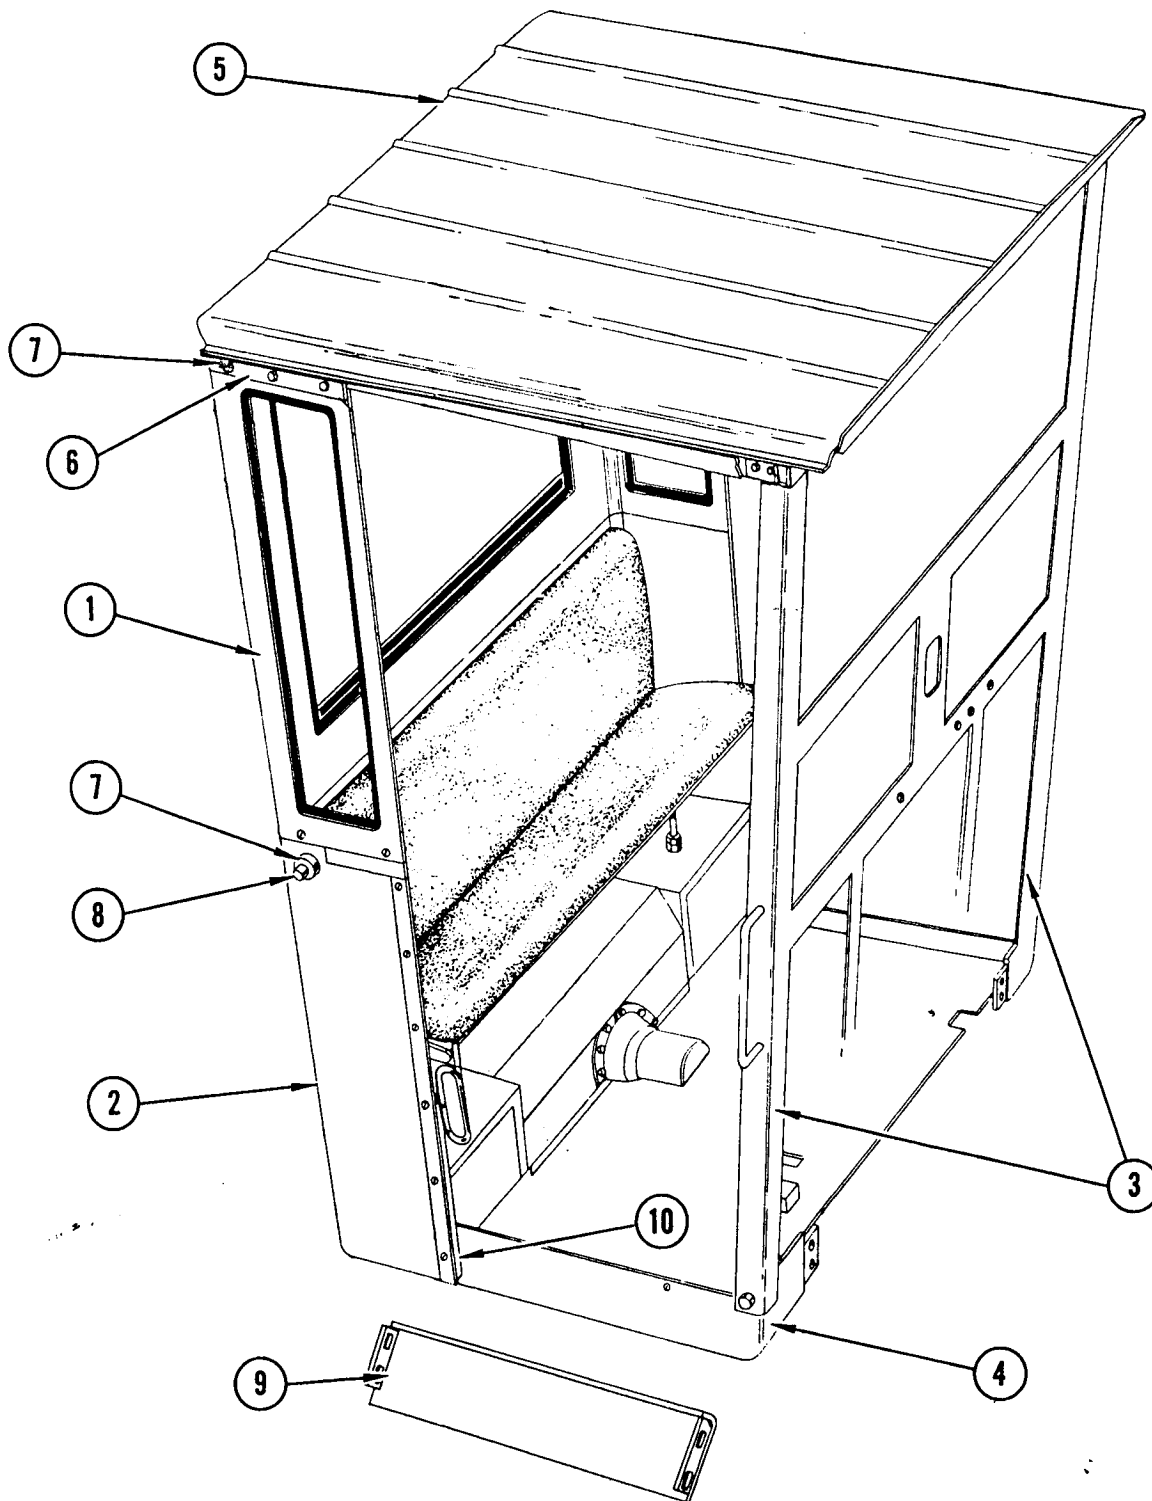

FIGURE 1. CAB AND ENCLOSURE
Install rear panel, Figure 1. Install and tighten all bolts with lockwashers and nuts securing bottom edge of panel (1) to cab back (2).